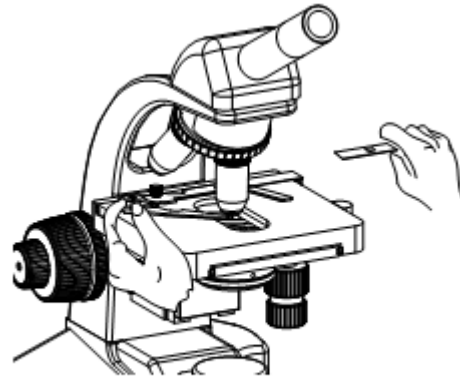

Fig.6
7.4.1 Turn apart the Specimen Clips, put into the Specimen, and use slide clip to hold it. Release the fingers ; make sure that the viewing area right in the middle of stage.(Fig.6)